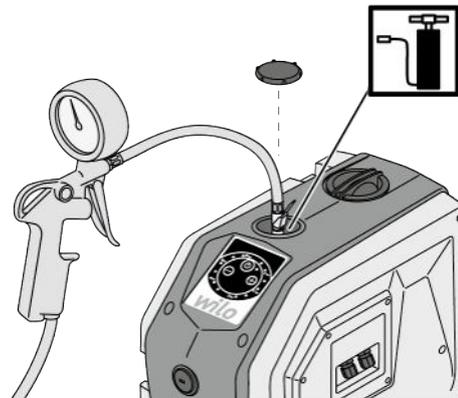
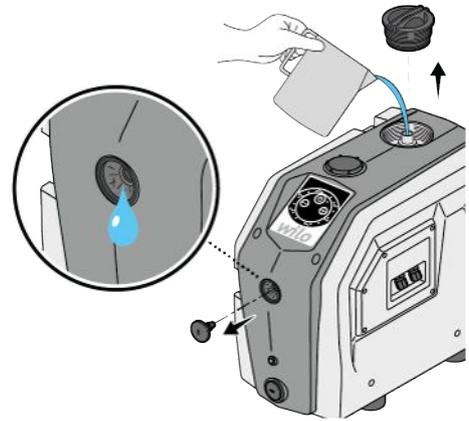

Fig. 7: Filling the diaphragm expansion tank
Fig. 10: Filling
1. Close the gate valve (Fig. 7 – Item 1, 2) at the suction and discharge sides.
1. If the product is installed in suction mode (Fig. 7), press the “+” and “-” operating buttons simultaneously for 5 seconds (Fig. 10).